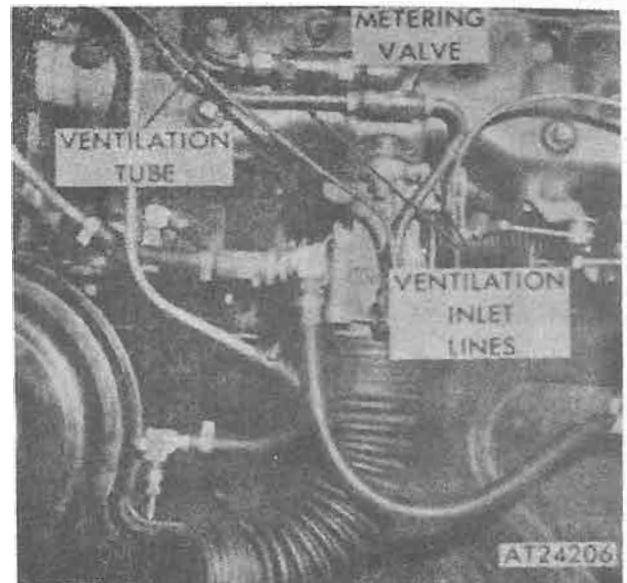

Figure 4-64. Crankcase ventilation lines (M151A2, M825 and M718A1 vehicles).
f. Crankcase Ventilation Lines—M151A2, M825 and M718A1. Disconnect and remove crankcase ventilation tube assembly from elbow at rocker arm cover and from nut at metering valve assembly. Disconnect and remove crankcase ventilation lines from fitting at carburetor and crankcase and connector at cylinder block. Refer to figure 4-64.